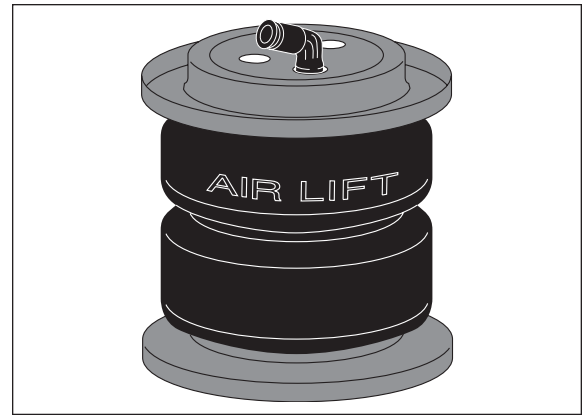

Figure 4
1. Place a roll plate (D) on the top and bottom of the air spring (A) so that the air spring is seated within the roll plates (Figure 4).
2. Install the air fitting (E) finger tight plus 1 1/2 turns (Figure 4). Use a 7/16" open end wrench, being careful to tighten on the metal hex nut only. *Do not overtighten*. This fitting is precoated with sealant.